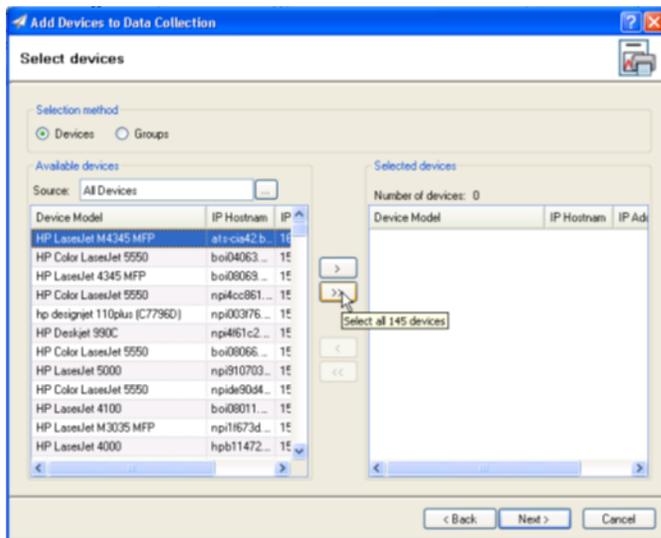

Figure 8: Select devices page
4. Click **Next**. The **Select devices** page opens (Figure 8).